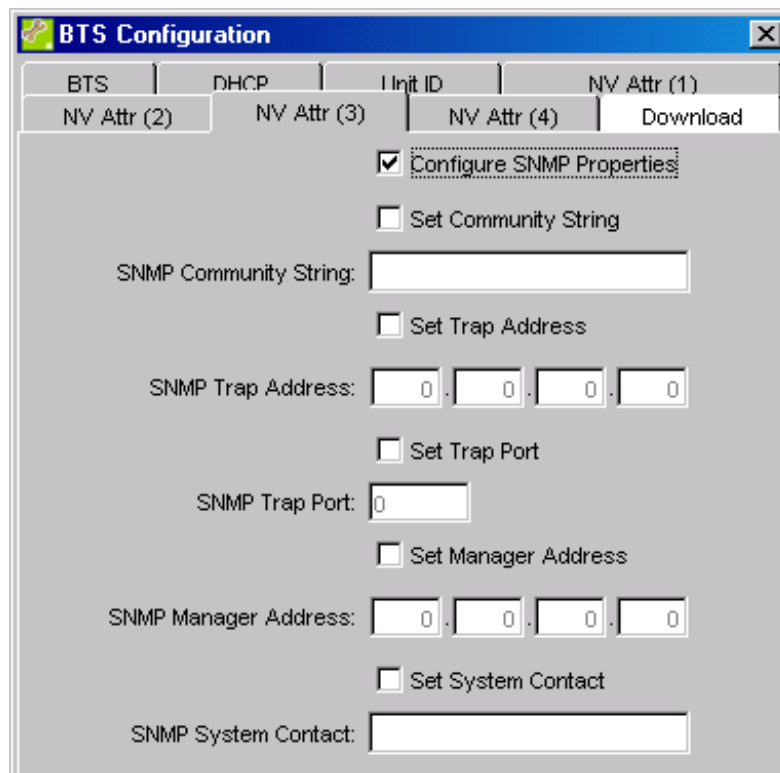

Figure 52 - NV Attr (3) tab
6.7.11 The NV Attr (3) tab
The NV Attr (3) tab, Figure 52, contains additional non-volatile attribute settings. All the controls on this tab are disabled unless the **Enable NV Attr Configuration** check box on the NV Attr (1) tab is checked.